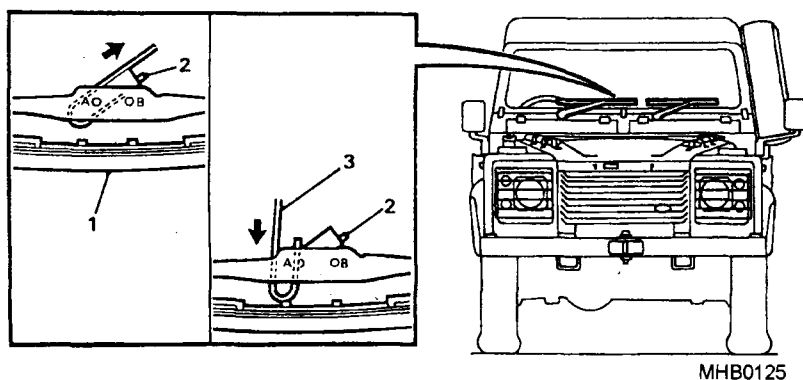

Fig 38 Windscreen wiper blade
42.2 Squeeze the spring clip (Fig 38 (2)) and push the blade towards the windscreen.